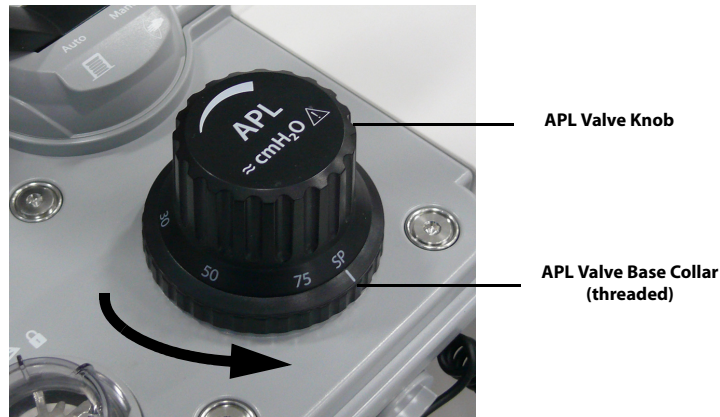

FIGURE 7-14 APL Valve Removal
1. The APL valve is a component that is plugged into position and secured by a threaded base collar. Loosen the base collar of the APL valve by turning the collar (not the valve knob) counterclockwise until it is no longer threaded as shown in FIGURE 7-14. Then, firmly pull the APL valve upward to remove.